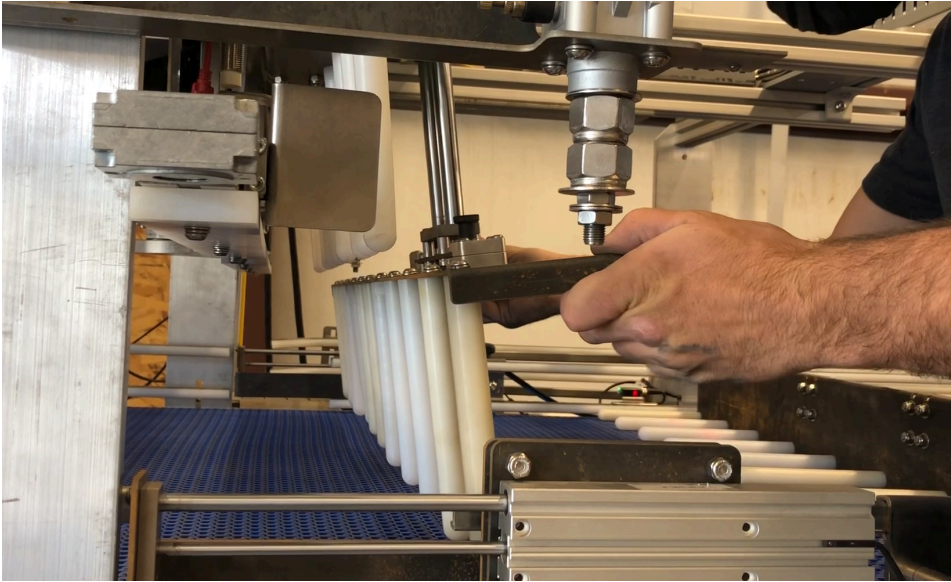

Fig. 36: Can Stop 1 removal
2. Pull up the pins holding the Can Stop 1 Pin Rail in place and turn them 90 degrees to keep them in the “up” position. Remove the current Can Stop 1 Pin Rail (Fig. 36).